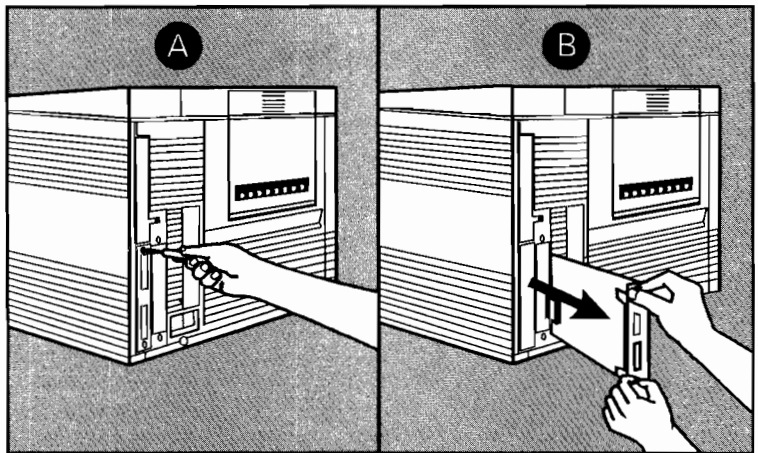

Figure 3-6. Removing the Existing Adapter Card
- a. Completely loosen the two captive thumbscrews on the installed adapter card using a small flat head screwdriver. See (A) in Figure 3-6.
- b. Remove the existing adapter card by pulling firmly on both of the card's thumbscrew posts. See (B) in Figure 3-6. Store the card in the antistatic bag in which your Ethernet adapter card came.